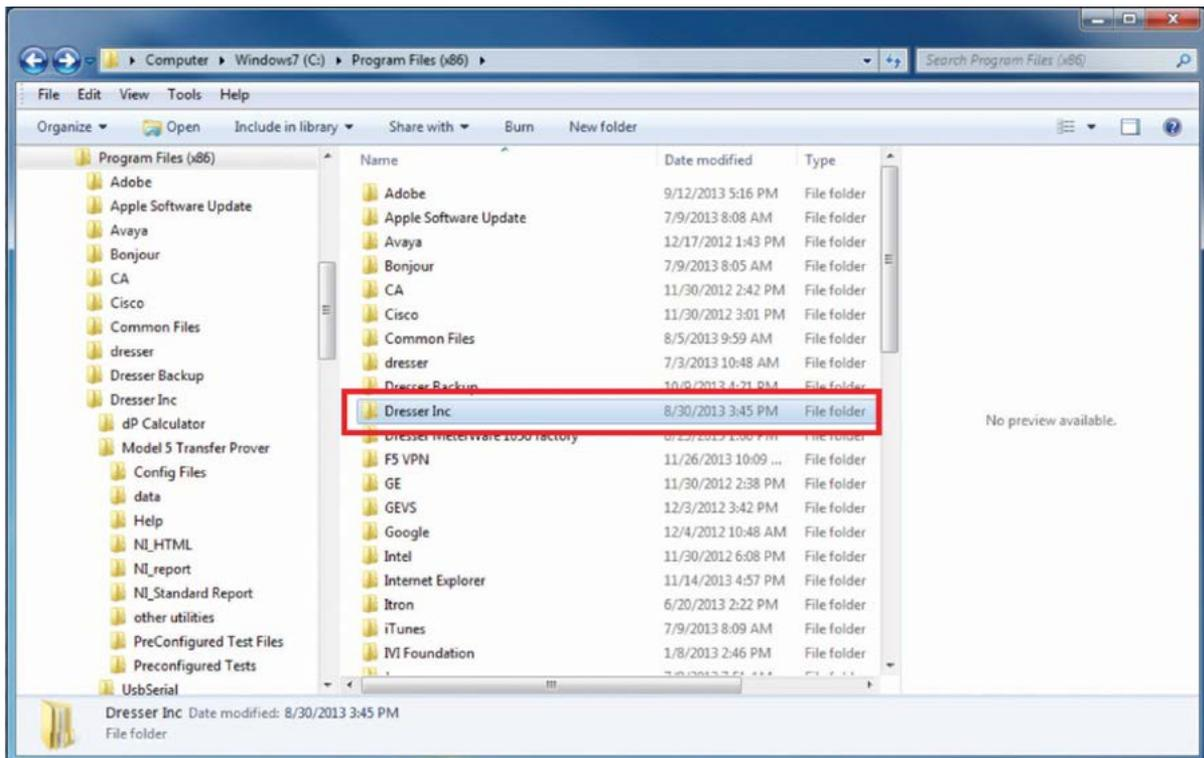

Figure 2: Find “Dresser Inc”
2. Within the appropriate folder, select the folder named “Dresser Inc” as shown in **Figure 2**.